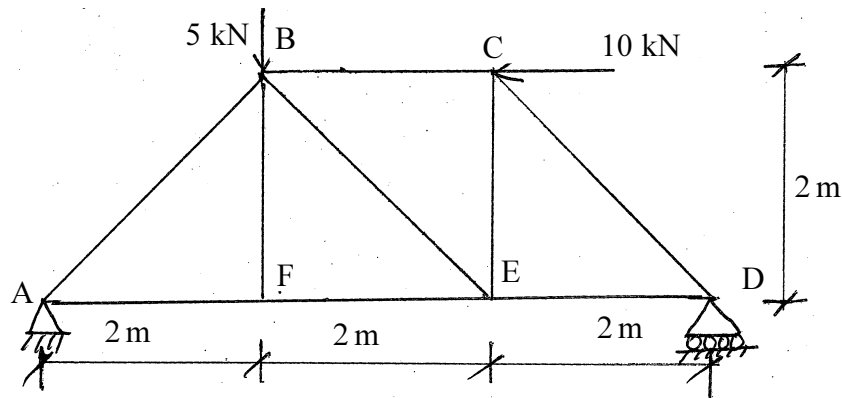

Figure 1
- c) Find the forces in the members of BC, BE and FE of the frame shown in fig. 1 using method of section. 4